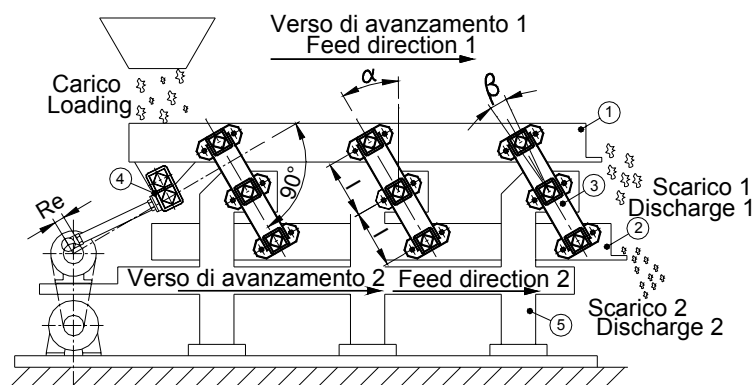

Fig.3
With high dynamic and inertial forces, and any time there is the need for an efficient and high-performance conveyor, we recommend that you use an oscillation system with mass and counter mass because stresses are never completely discharged in foundations but dynamically compensated by the two oscillating masses. Figure 3 illustrates the diagram of a two-balanced-mass oscillating conveyor actuated by a connecting-rod/crank device. This plant consists of a chute supported by TD-S suspensions and enabled by an AD-P elastic element that acts as the elastic joint. These two-mass conveyors can be operated both from the upper sliding channel and the lower counter mass. As an alternative, TD-S can be replaced by TD-F which differs only in the coupling procedures as illustrated below. The sliding channel (1) and the counter mass (2) have the same weight. Therefore, while they oscillate, their two masses are dynamically balanced because one moves in the opposite direction to the other. This system also allows to exploit the oscillation of the counter mass to obtain a second sliding channel with the same direction of the upper one.